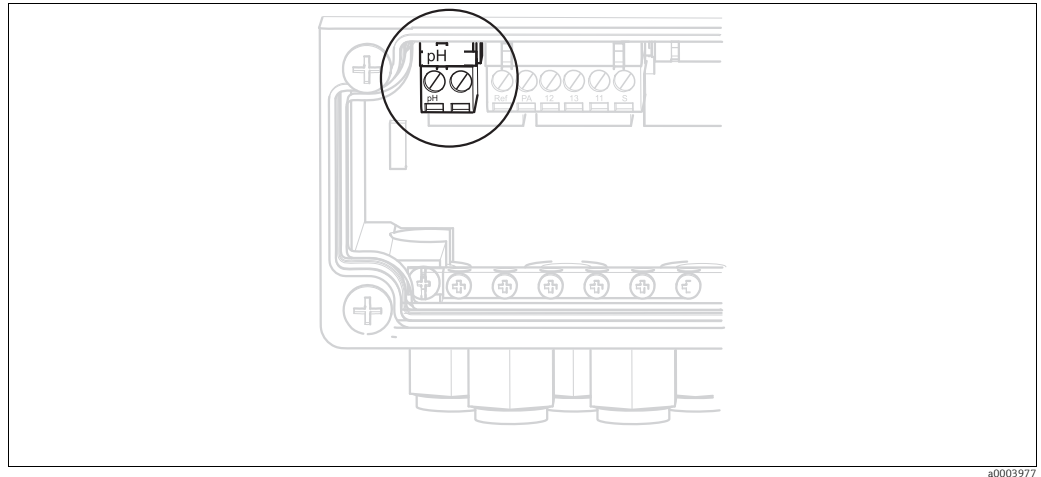

Fig. 22: pH terminal on housing cover
3. Remove the "pH" terminal on the housing cover (see Fig. 22) from the device and replace it with the "DRN/SRC" terminal supplied.